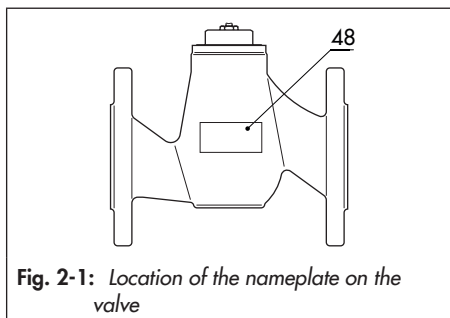

Fig. 2-1: Location of the nameplate on the valve
The nameplate (48) is affixed to the valve body (see Fig. 2-1).